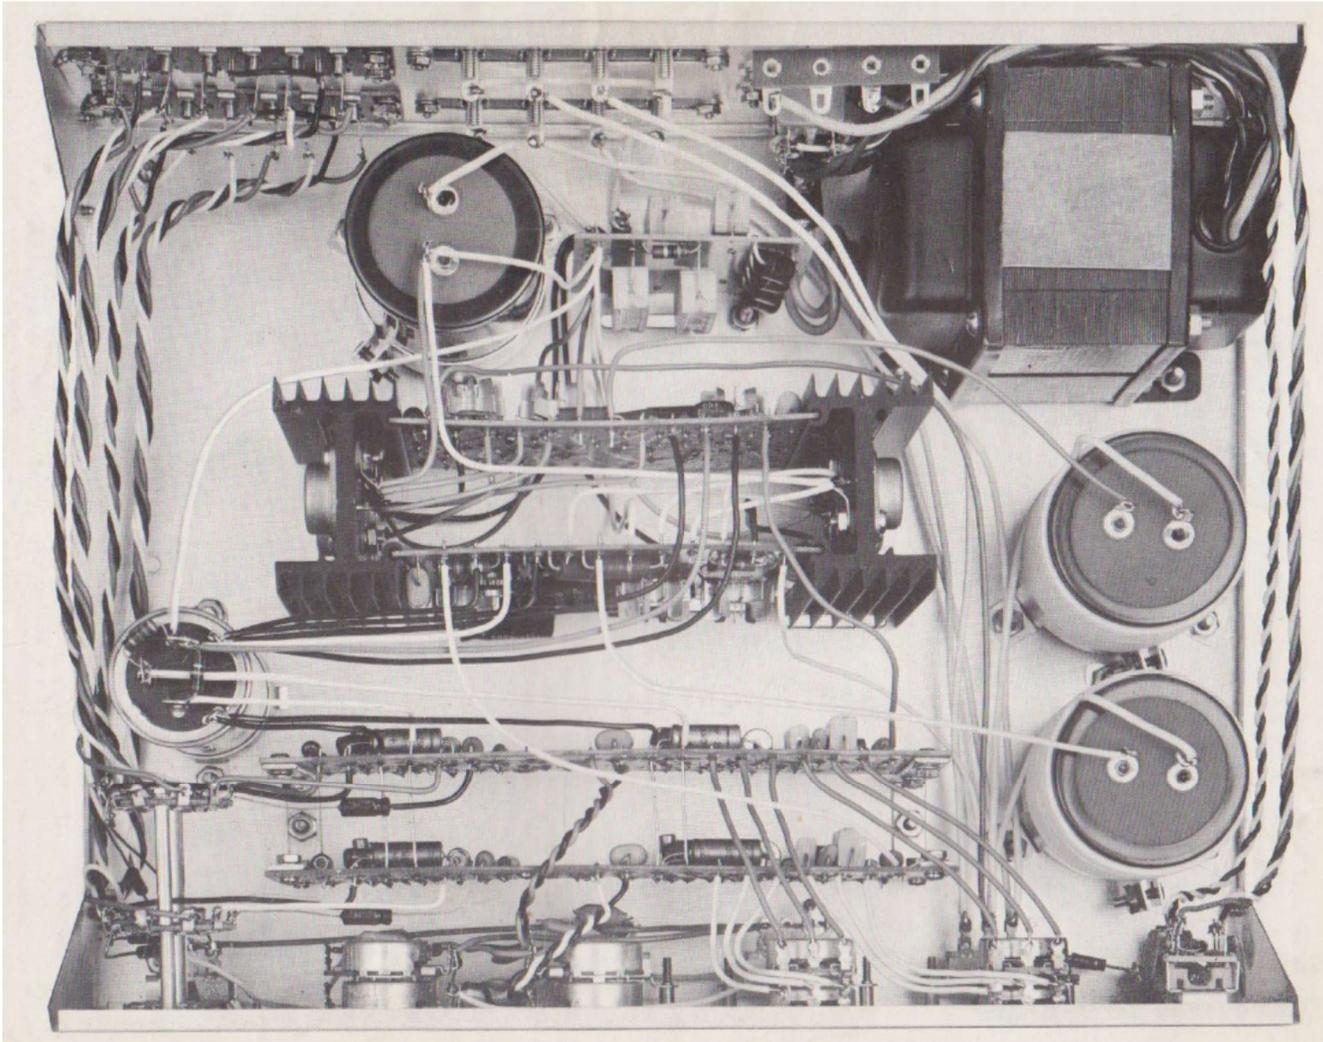

Figure 11-SCA80 Original Wiring
3. If you need a reminder about where something goes, please refer to **Figure 11**.